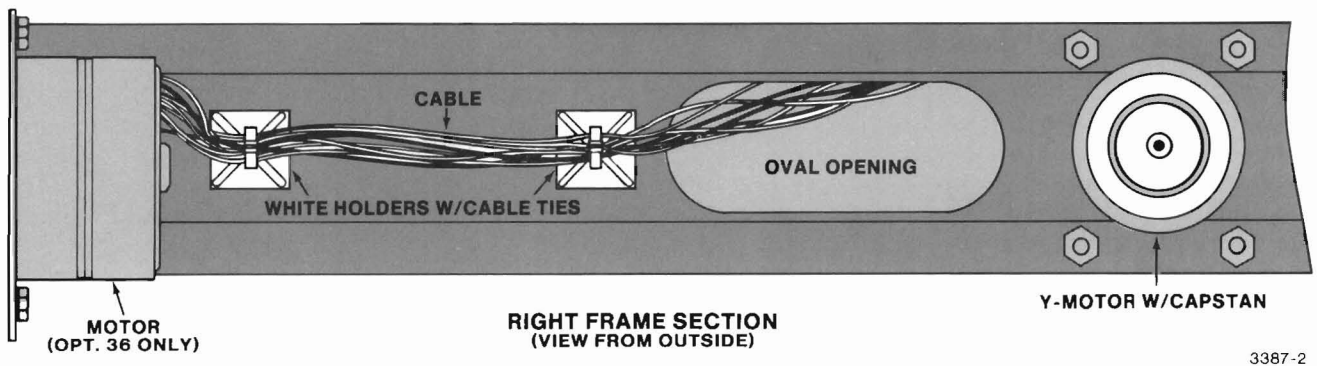

Figure A-8. Media Advance Drive Motor Cable Detail.
5. To the outside of the right frame section, attach two cable tie holders (352-0482-00) and two cable ties (343-0549-00). (Refer to Figure A-8.)